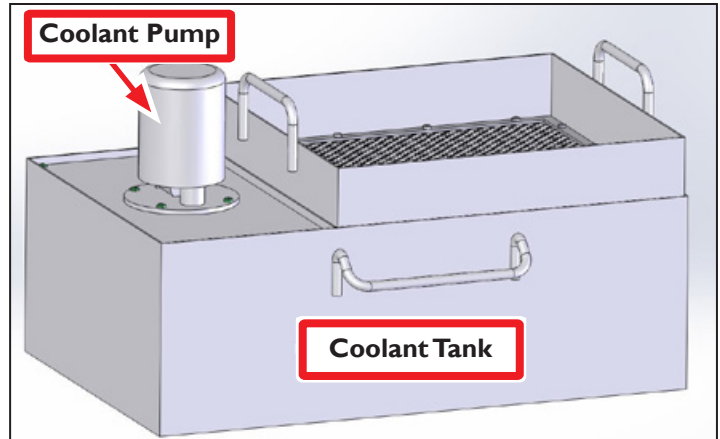

Figure 8
1. Remove all parts from inside *Coolant Tank* (see **Figure 8**).
2. Using four *M5 x 12 mm Screws*, mount *Coolant Pump* to *Coolant Tank* (see **Figure 8**).